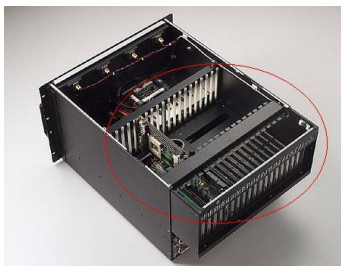

Figure 2.5: Backplane Holder
- b. Release two thumbscrews to draw out the backplane holder until you have enough space to take out driver bay. See Figure 2.5